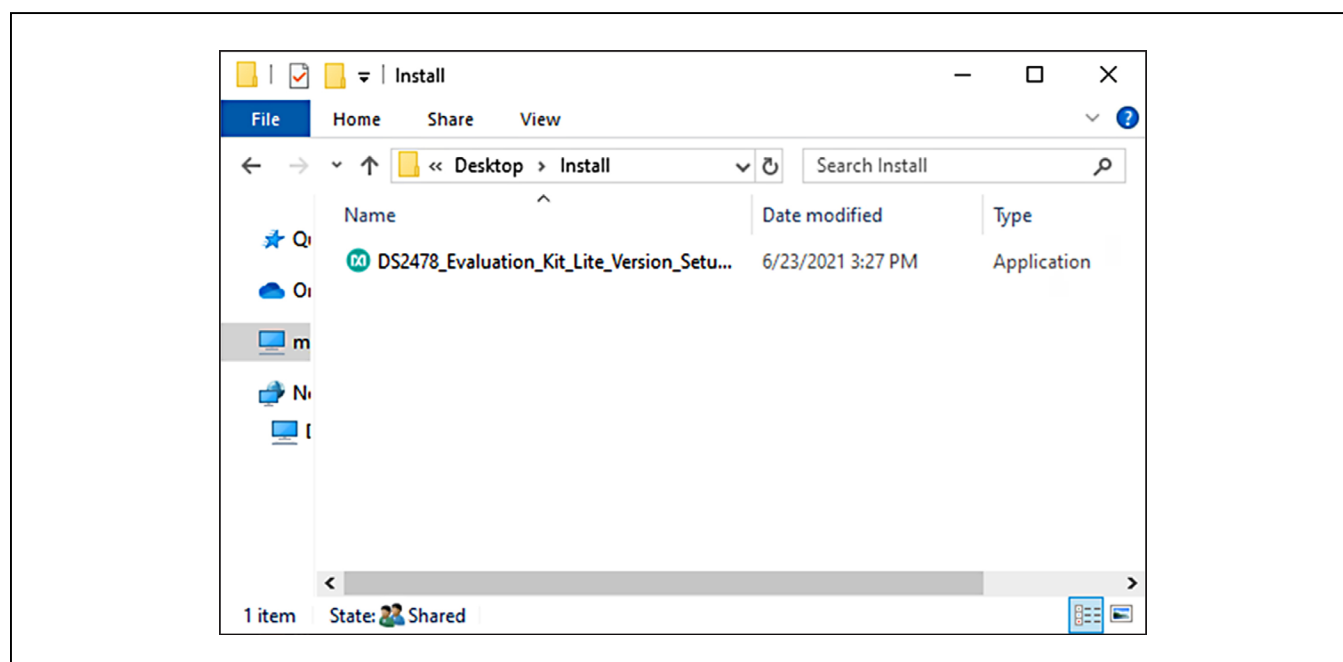

Figure 1. File Viewer
- 2) In a file viewer (Figure 1), double click on the **DS2478_Evaluation_Kit_Lite_Version_Setup_V1_0_0.exe** file to begin the installation.